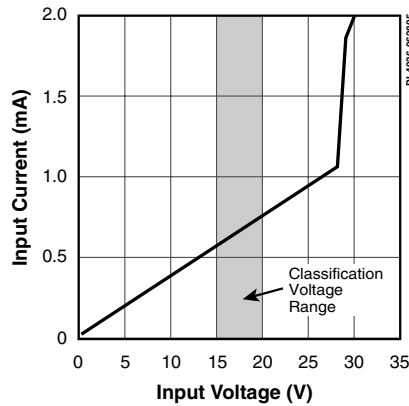

Figure 2. Classification Current (Class 0).
**Classification Phase:** The PSE continues to ramp the voltage to the PD. Between 15 V and 20 V, the classification phase occurs. During this voltage transition, the PD must draw a specified current to identify the device class (see Figure 2). The simplest class (Class 0) is also implemented by the use of the 24.9 kΩ signature resistor. The classification current describes the amount of power the PD will require during normal operation. It is this information that is fed to the controller by the PSE, which allows the system to determine power budget requirements. A table of classification current and operating PD power requirements is shown in Table 1.